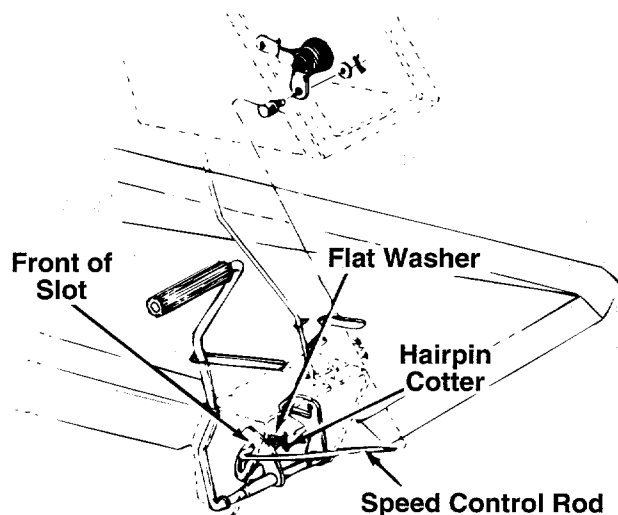

FIGURE 16.
7. Disconnect the speed control rod by removing the hairpin cotter and flat washer. See figure 16.
9. Adjust the rod by threading it in or out of the ferule until it is all the way to the front of the slot as shown in figure 16.